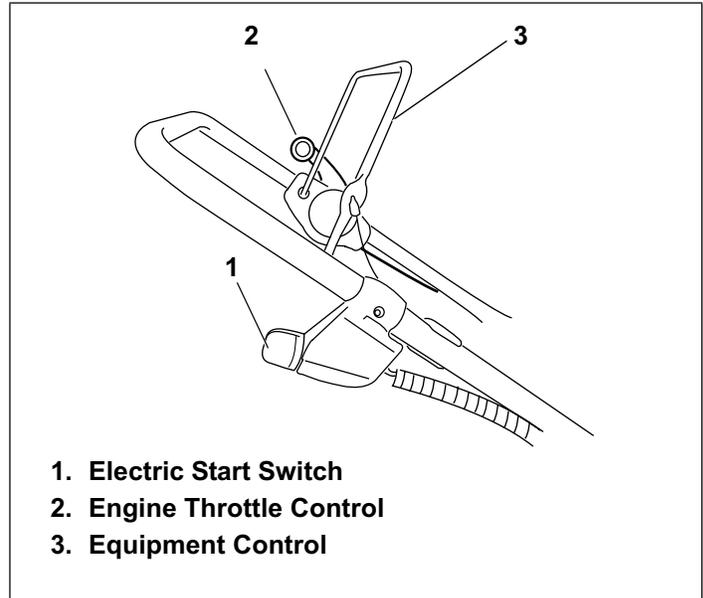

Figure 12. Typical Engine Controls
2. Move engine throttle control to "FAST" position, if present (see equipment manufacturer's instructions). See Figures 12 and 13.
4. Operate equipment control to release engine brake or clutch, if present (see equipment manufacturer's instructions). See Figure 12.
2. Move engine throttle control to "CHOKE" or "START" position, if present (see equipment manufacturer's instructions). See Figures 12, 13 and 16 starting on page 7. Afterward, continue reading instructions below.
*If restarting a warm engine after a short shutdown, move engine throttle control to "FAST" position instead of "CHOKE" or "START" position. See Figures 12, 13 and 16 starting on page 7. Afterward, continue reading instructions below.*
3. Operate equipment control to release engine brake or clutch, if present (see equipment manufacturer's instructions). See Figure 12 on page 7. Afterward, continue reading instructions below.
- b. Move engine throttle control to "FAST" position. See Figures 12, 13 and 16 starting on page 7. Afterward, continue reading instructions below.
- a. Move engine throttle control back to "CHOKE" position. See Figures 12, 13 and 16 starting on page 7. Afterward, continue reading instructions.
- b. Next, move engine throttle control to "FAST" position. See Figures 12, 13 and 16 starting on page 7. Afterward, continue reading instructions below.